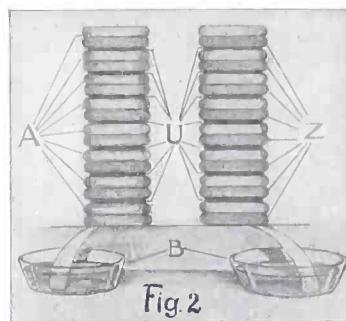

Fig. 2
25. The Galvanic battery is a general way of stating an apparatus which causes chemical energy to be changed to electrical energy. Fig. 2, shows a battery column of the Volta or the above type. Here a batch of copper plates (A) are connected in series with a batch of zinc plates (Z). That is, one zinc plate (positive) and one copper plate (negative) are